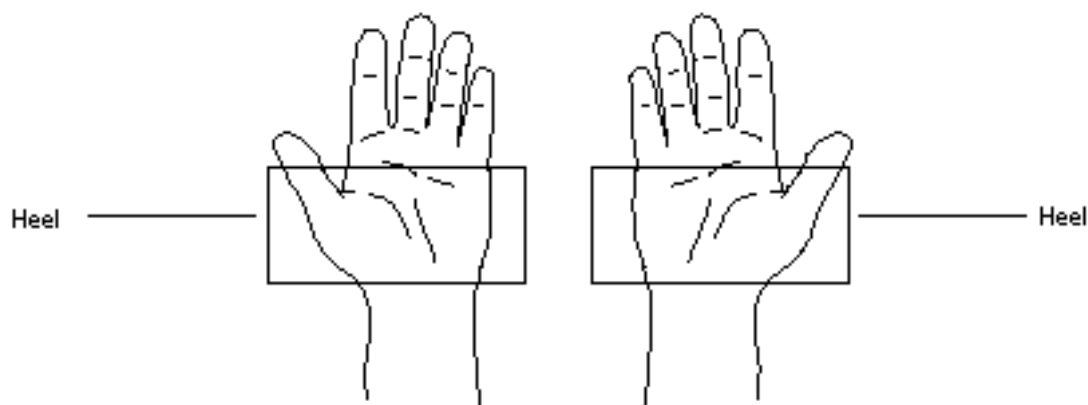

Figure 8-8 Heel of Each Hand
9. Place the heel of each hand on each side of the insertion tool's pushing surface, and press the tool down firmly until the DSIMM snaps into place. See Figure 8-8.